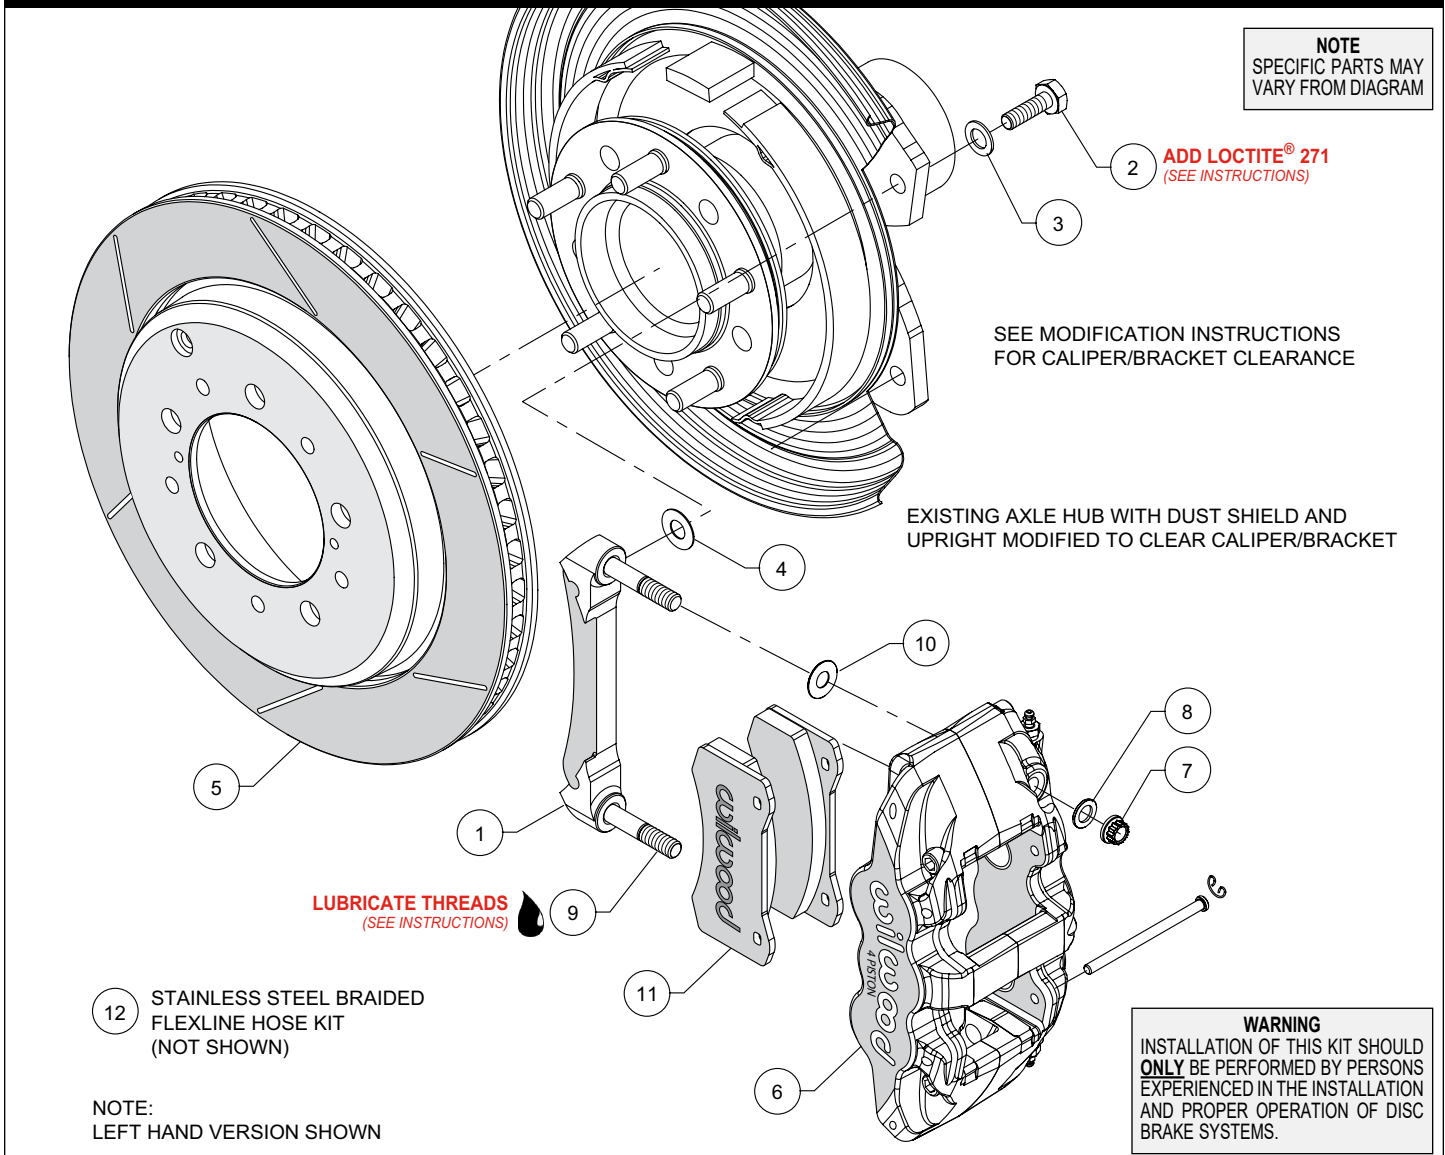

Figure 1. Typical Installation Configuration
Assembly Instructions (numbers in parenthesis refer to the parts list and Figure 1 on the preceding pages):
- The caliper mount bracket (1) should initially be installed with clean, dry threads on the mounting bolts. Orient the bracket as shown in Figure 1 and Photo 1, and install using bolts (2) and washers (3). Initially place one .033 thick shim (4) on each bolt between the bracket and upright, Figure 1. Temporarily tighten the mounting bolts. **NOTE:** The bracket must fit squarely against the mount bosses on the upright. Inspect for interference from casting irregularities, machining ridges, burrs, etc. Later, after the caliper alignment has been checked, the mount bolts will be secured using red *Loctite*® 271.
- Slide the hat/rotor (5) onto the axle hub, Photo 2. **NOTE:** The hat must fit flush against the axle hub flange or excessive rotor run out may result. Install three lug nuts (finger tight) to keep the hat/rotor assembly in place while continuing with the installation.
- Lubricate the caliper mounting studs (9) with lightweight oil. Initially place one .030" thick shim (10) on each stud as shown in Figure 1 and Photo 3. Mount the caliper (6) onto the bracket (1) using lock nuts (7) and washers (8), Figure 1. Temporarily tighten the lock nuts and view the rotor through the top opening of the caliper. The rotor should be centered in the caliper, Photo 4. If not, adjust by adding or subtracting shims (4) between the bracket (1) and the upright. Always use the same amount of shims on each of the two mounting bolts. Once the caliper alignment is correct, remove the bracket mounting bolts (2) one at a time, apply red *Loctite*® 271 to the threads, and torque to 60 ft-lb.
- Remove the caliper (6), then remove the two pad retaining pins from the caliper by carefully popping out the pin retaining clips and sliding out the pins. Insert the brake pads (11) into the caliper from the bottom, Figure 1 and Photo 5. With the friction material facing the rotor, secure the brake pads in place with the pad retaining pins and clips, Photo 6. Reinstall the caliper onto the caliper mounting bracket and temporarily tighten the lock nuts. Check that the top of the brake pad is flush with the outside diameter of the rotor, Photo 7. If not, adjust by adding or subtracting shims (10) between the caliper and the bracket. After the caliper pad height is set, torque the caliper lock nuts (7) to 47 ft-lb.